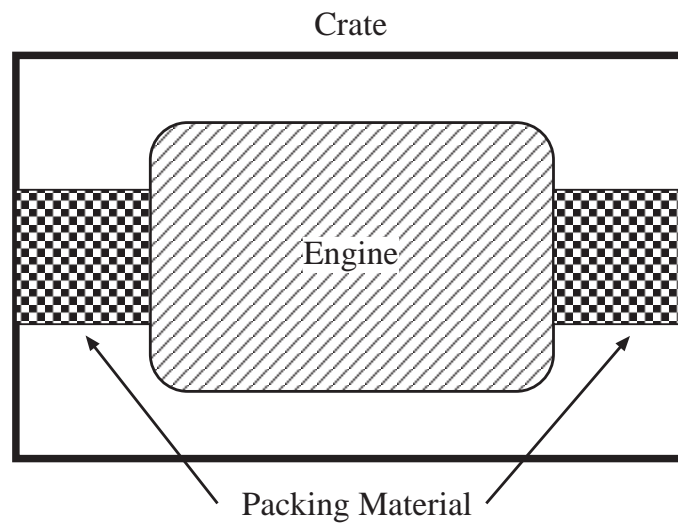

Figure 2: Engine in Shipping Crate
4. Sensitive machinery and instruments are typically packed with shock-absorbing material for shipping. Fig.2 shows a plan view sketch of a 500-pound engine in a